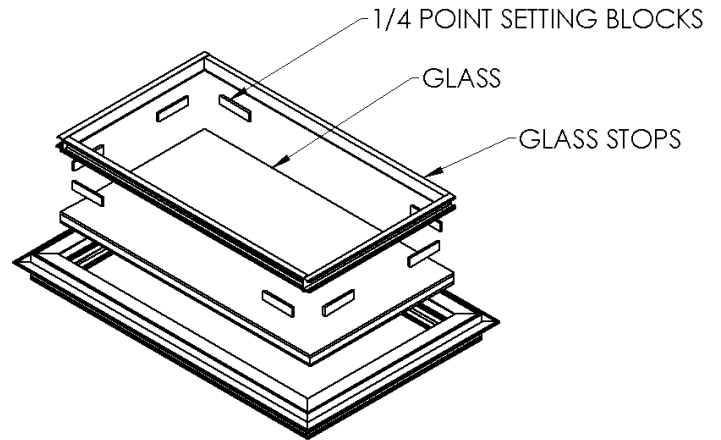

Figure 11:
- Install glass setting blocks at 1/4 points into the top, bottom, and sides of the frame (Figure 11).